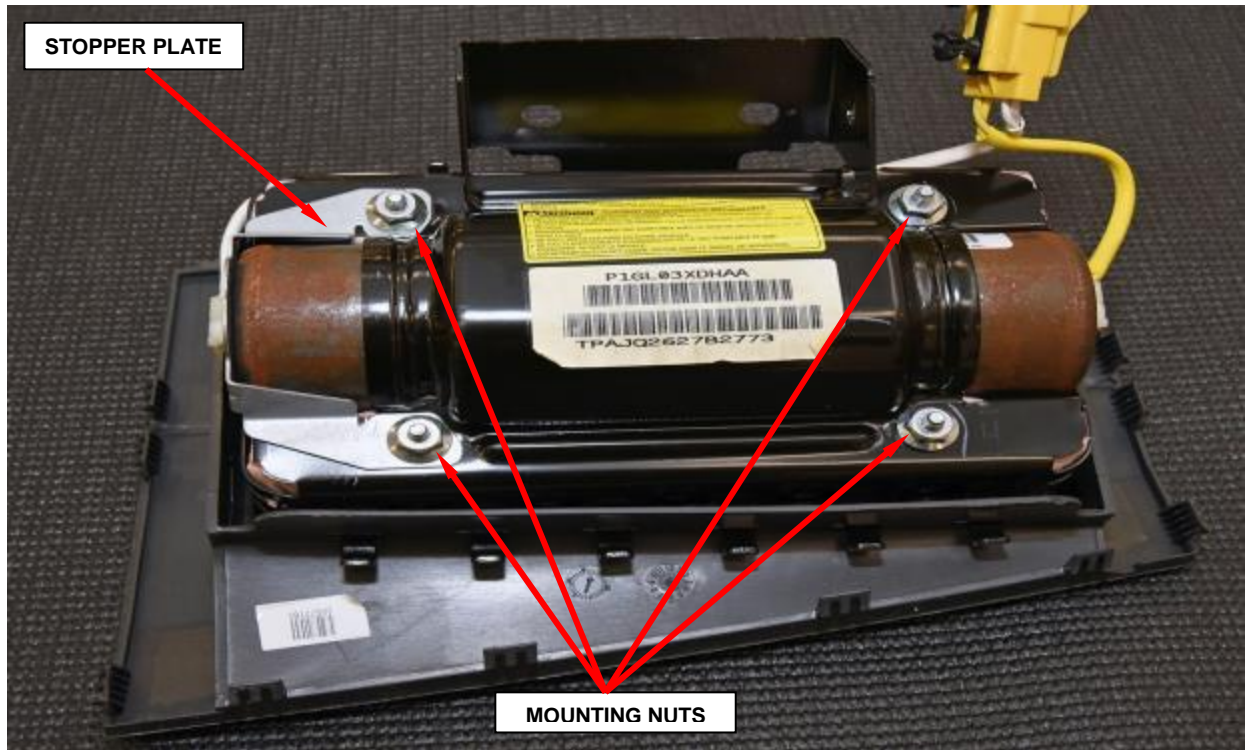

Figure 7 – Mounting Nuts and Stopper Plate
- d. Remove and **discard** the four mounting nuts and remove and save the stopper plate from the passenger airbag module (Figure 7).
- g. Install the stopper plate to the airbag module (Figure 7).
- h. Install the four **NEW** mounting nuts to the airbag module and tighten to 53 in. lbs. (6 N·m) (Figure 7).